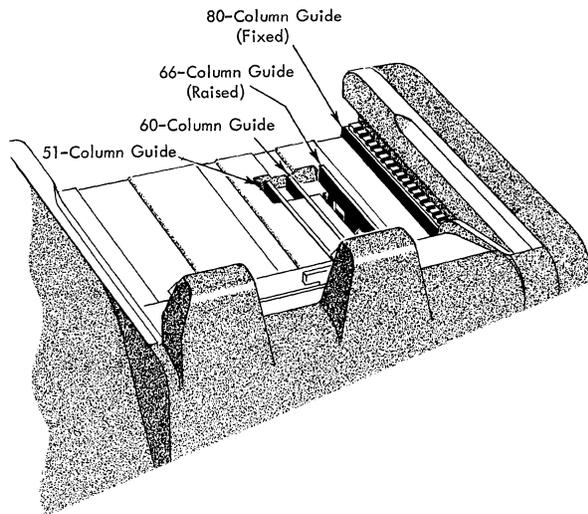

Figure 21. Hopper Card Guides
1. Select the proper card guide in the hopper and lift it forward into position. For any selected card length, all card guides for cards of shorter length must rest in the hopper bed (Figure 21). Note that the 80-column card guide is fixed at the right side of the hopper. The sliding pressure plate in the hopper is notched to pass over the raised card guides.